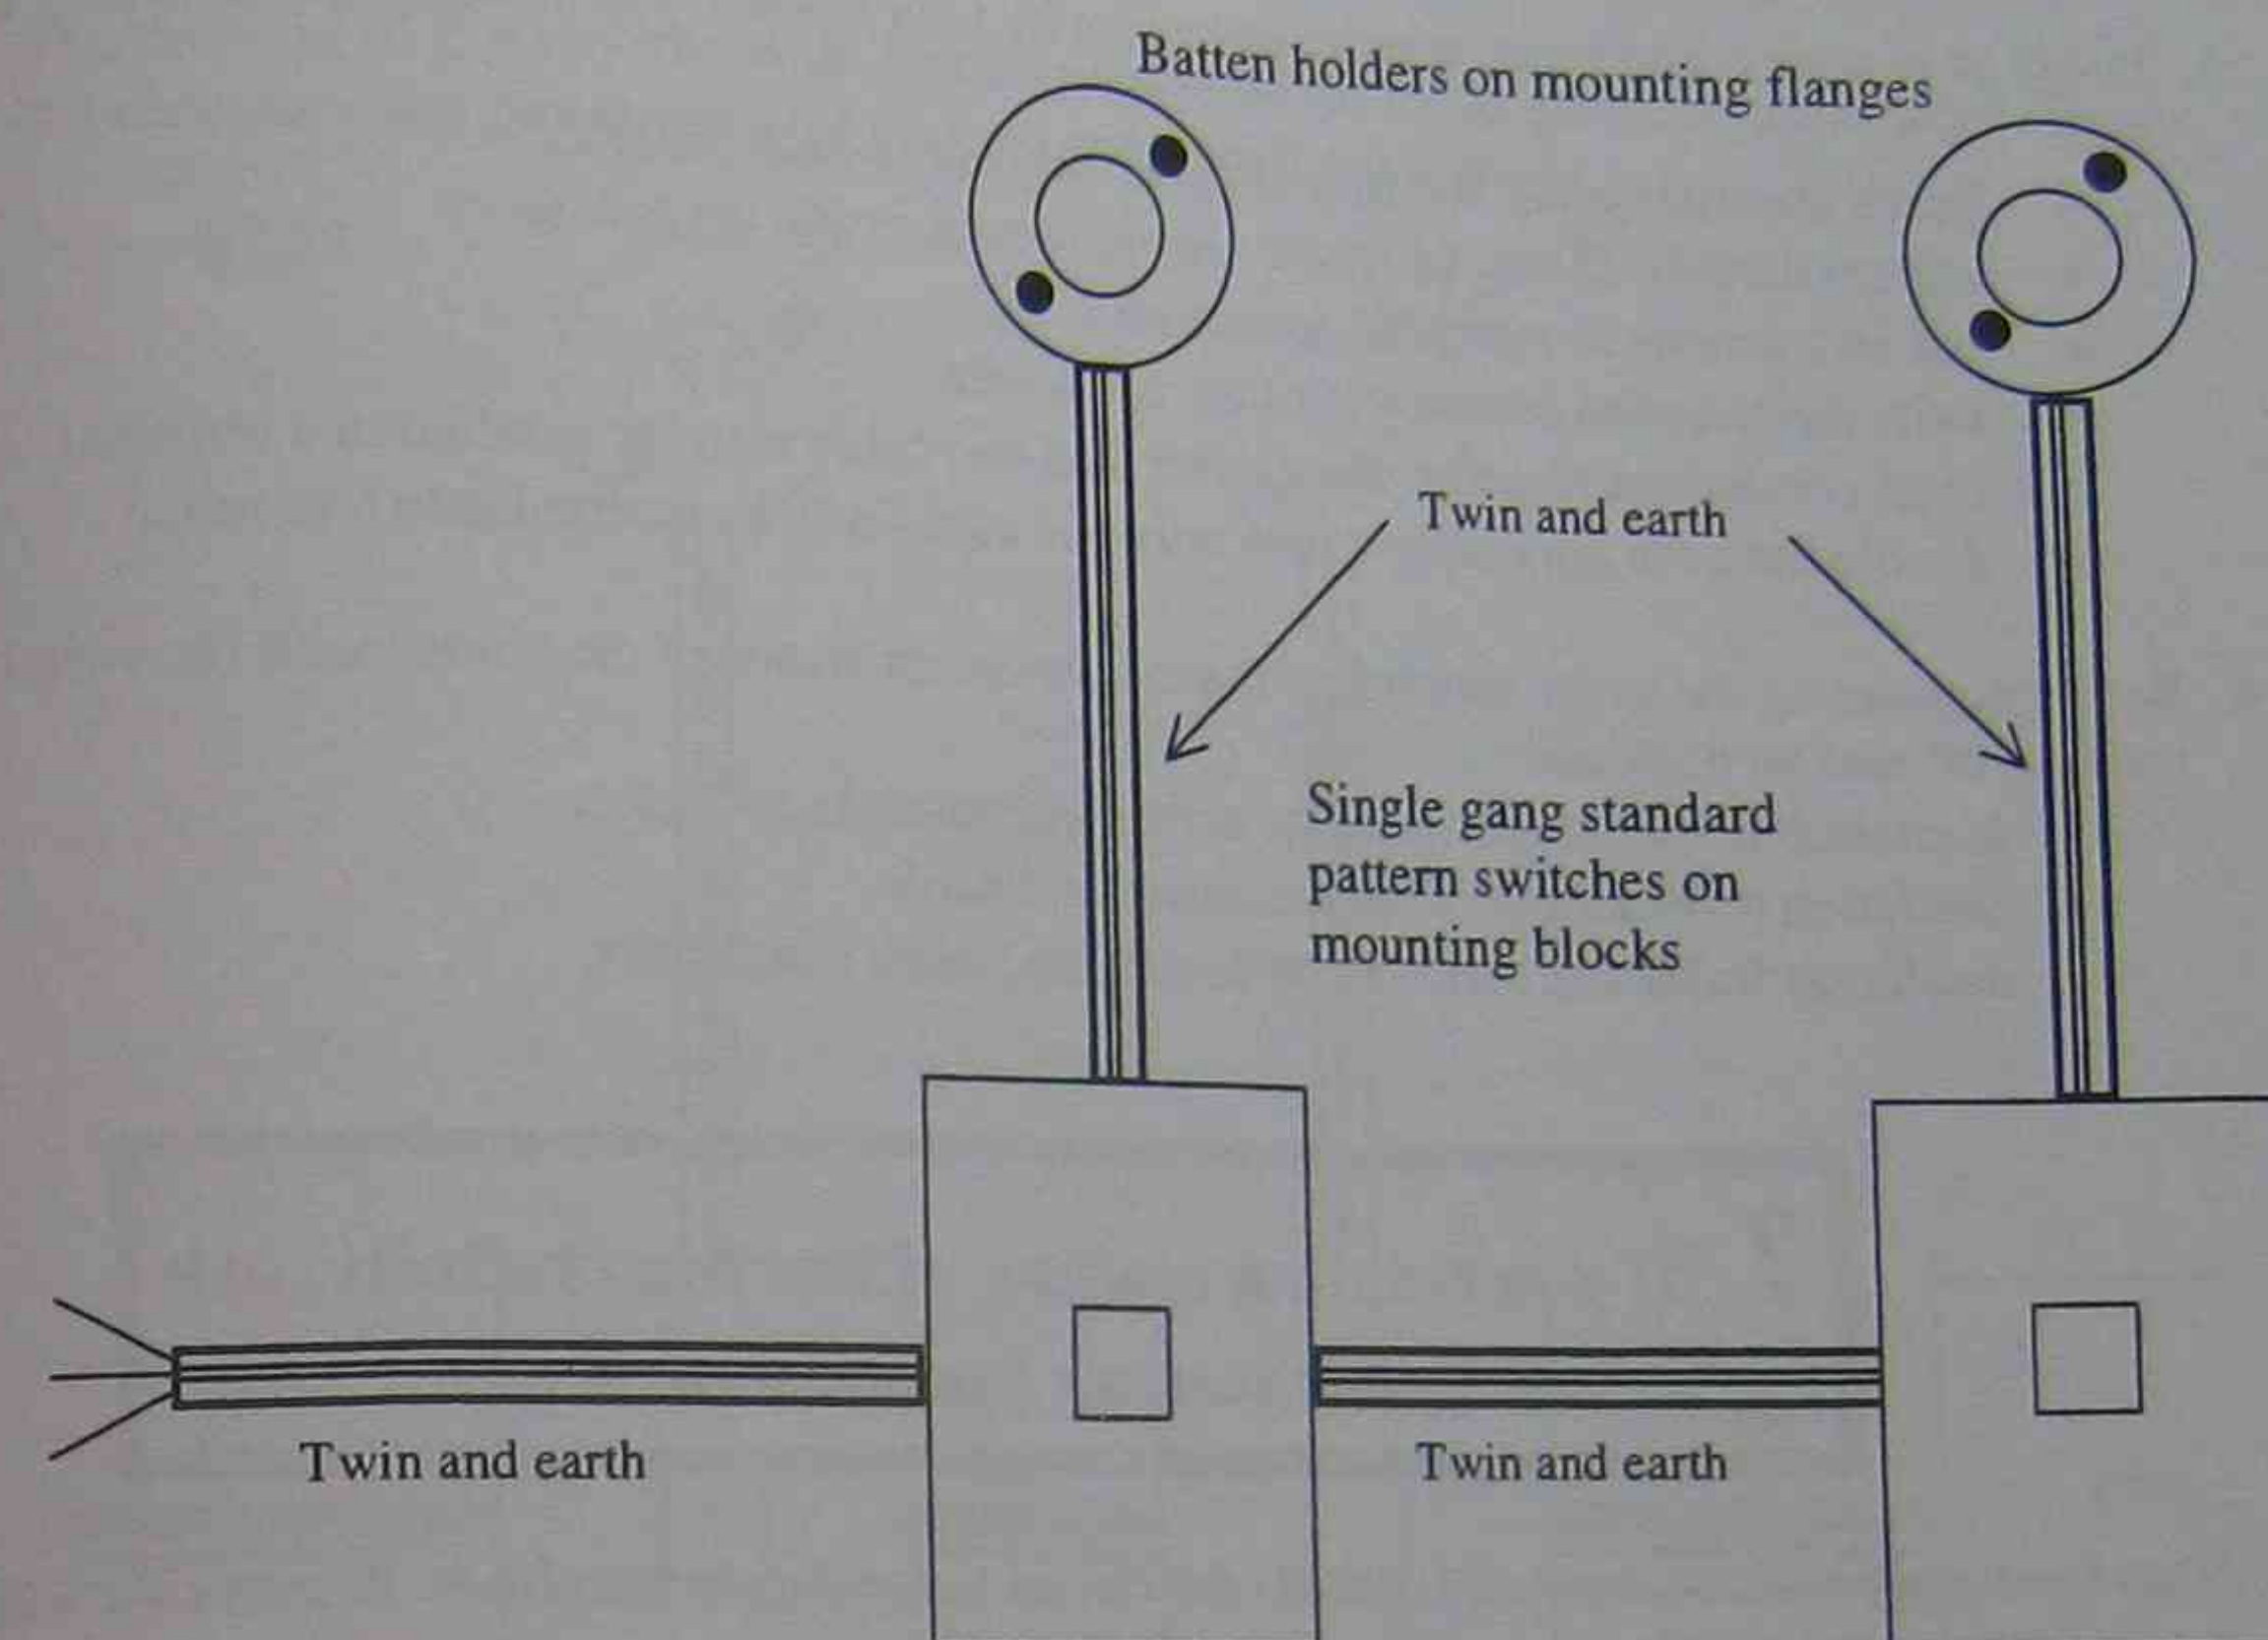

Figure 6 Equipment and cable layout
2. The drawing of Figure 6 shows the layout of the circuit being constructed. Obtain the necessary equipment using the diagram and parts list as a guide.